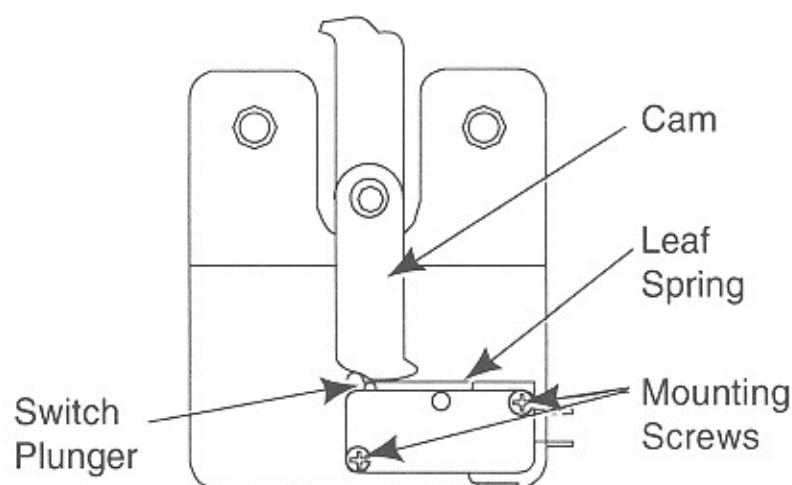

Figure 6-12. Cam Switch Adjustment
1. Check that the leaf spring is resting in the cam lobes and that the switch plunger just touches the bottom of the leaf spring as shown in Figure 6-12.
2. To adjust the switches, loosen the mounting screw under the plunger end and move the switch housing as described in the previous step (See Figure 6-12).